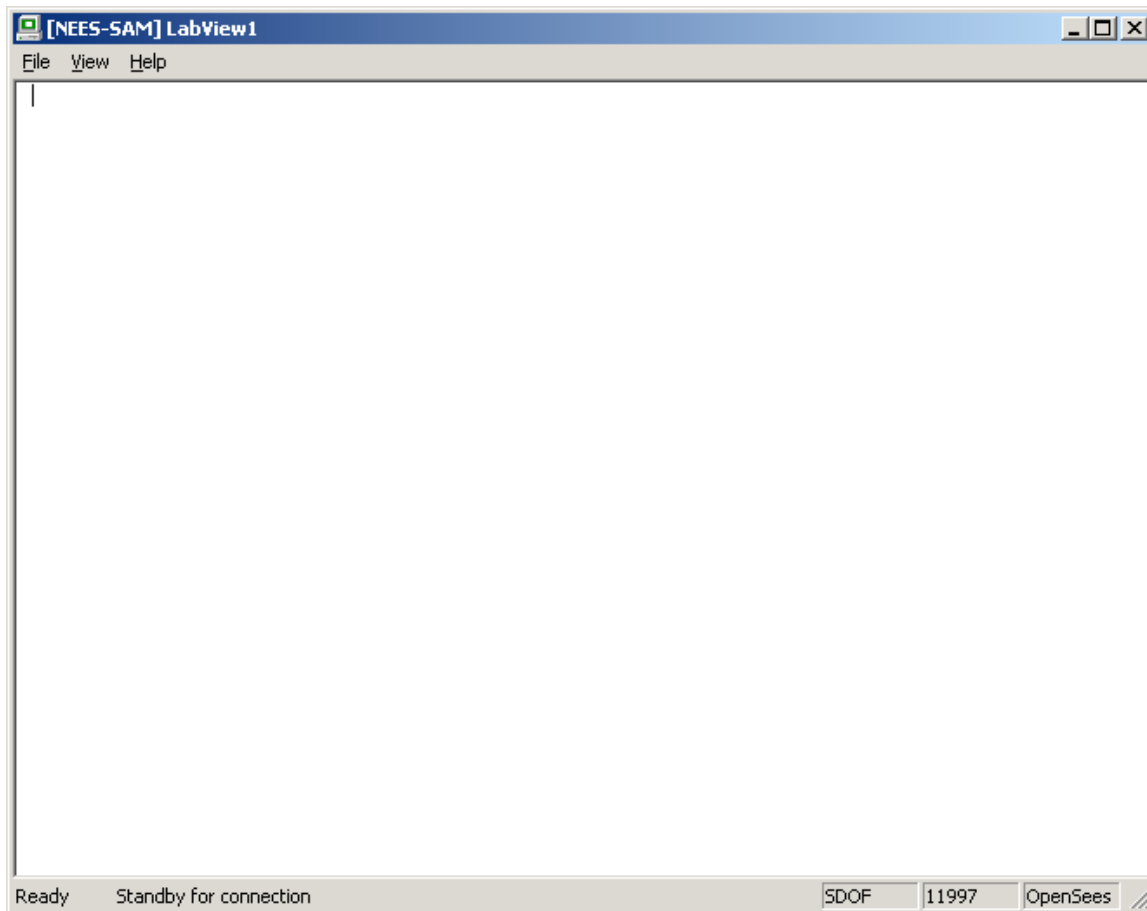

Figure 7: NEES-SAM Window for Local Test.
- After choosing the file the NEES-SAM window looks like Figure 7. The bottom left of the window should read `Ready Standby for connection`. The bottom right of the window should read `SDOF` (name of the Tcl file being used), `11997` (IP port number), and `OpenSees` (program used to simulate the experimental element).